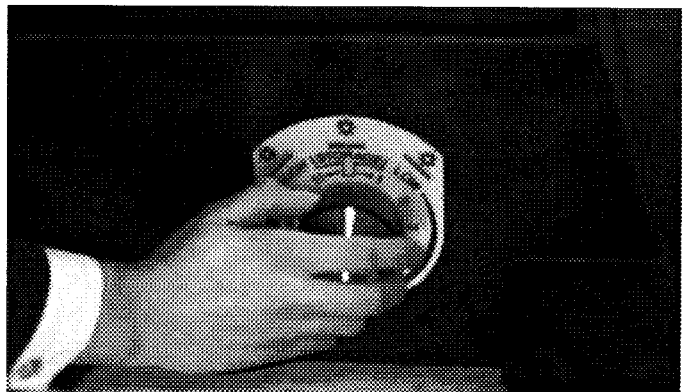

FIG. 3
3. Properly adjust brush height to type of carpet, tilt machine back and turn adjustment knob counterclockwise. Now tilt machine back down to floor and activate triggers. If a slight forward propulsion is noticed, machine is properly adjusted. (Figure 3)